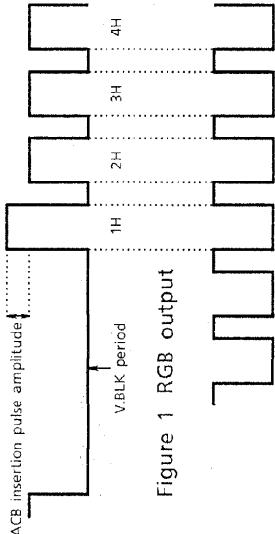

Figure 1 RGB output
<p>① Input signal 1 ($f_0 = 100kHz$, picture period amplitude = $0.2V_{p-p}$) to pin 53 and adjust the drive adjustment data so that the picture period amplitudes of pins 41 and 42 are equal to that of pin 43.</p> <p>② Set SW53 to C.</p> <p>③ Measure the voltages of pins 29, 30, and 55. From an external power supply, apply the measured voltages to these pins.</p> <p>④ Set subaddress (15) data to (D2).</p> <p>⑤ From pins 43, 42, and 41, calculate the phase of the ACB insertion pulse in accordance with Fig.1 below.</p> <p>(Note) After the completion of V.BLK, the video period following the falling edge of the FBP input is regarded as 1H and the periods at each completion of H.BLK are counted as 2H, 3H, 4H...</p> <p>⑥ Measure the ACB insertion pulse amplitude (the level from the picture period amplitude at no input) of pins 43, 42, and 41.</p>